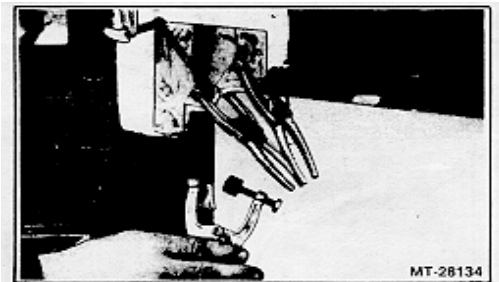

Figure 36 Attaching Backing Plate
- 16 Now determine a method of holding the backing patch in place (C-clamps, self-tapping screws, etc.) and trial test the method (Figure 36).